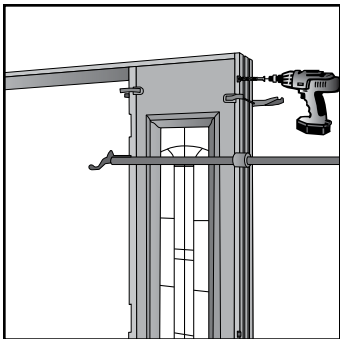

Fig. 17
- F. Anchor jamb leg to silight through back of rabbeted portion of jamb with 1-1/2" screws at top, bottom and center. More anchor screws may be necessary on larger sidelights (**Fig. 17**).